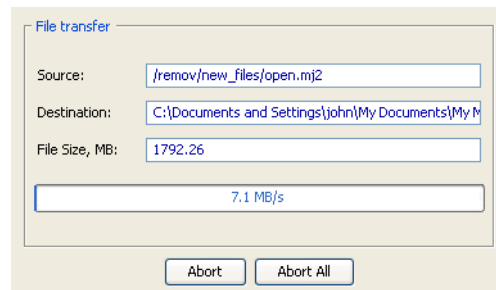

Figure 4-8 File Transfer Screen
7. Click on the clip or file to transfer and then click on the **Select** button or double click on the clip or file to add it to the **Source Transfer list** (Figure 4-8). Repeat this step for each clip or file to transfer.
6. Click on the clip file to be transferred and click the **Select** button or double-click on the file. The file will then be added to the **Source Transfer list** (Figure 4-8). Repeat this step for each clip file to be transferred.